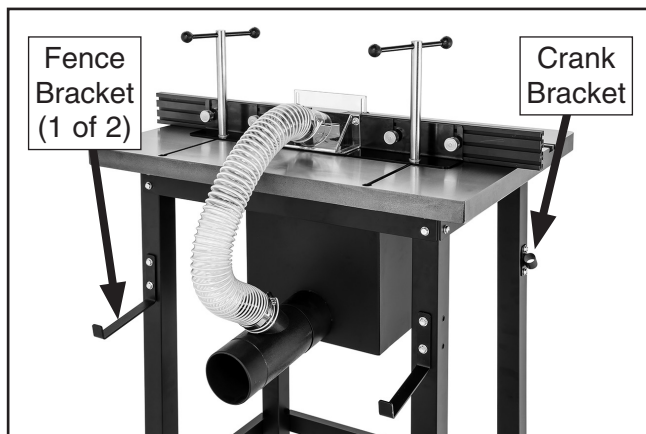

Figure 33. Fence and crank handle storage brackets installed.
27. Install fence storage brackets (see **Figure 33**) with (4) ⅝"-18 x ½" flange bolts.
28. Install crank handle storage bracket (see **Figure 33**) with (2) ⅝"-18 x ½" flange bolts.